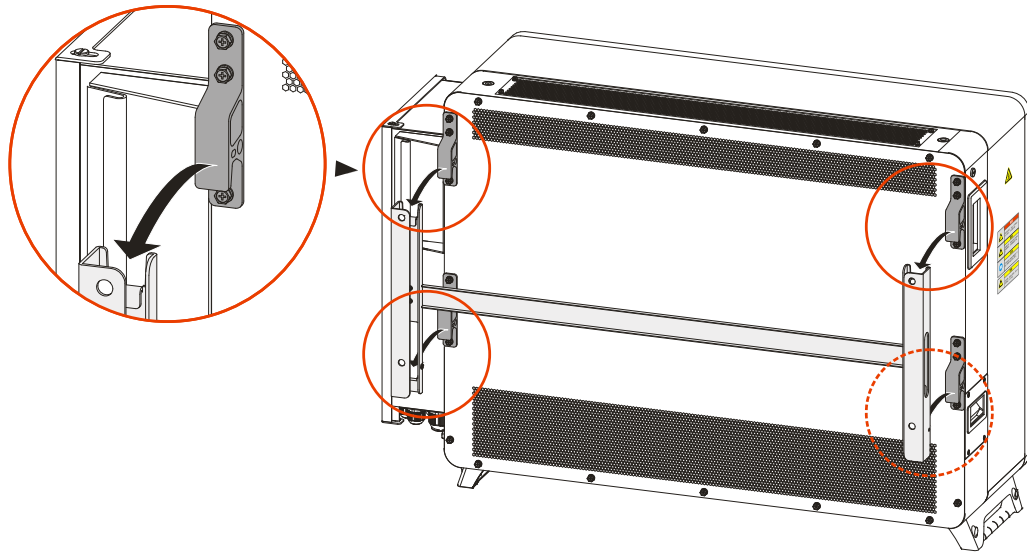

Figure3-24 Hang the inverter on the wall bracket
Step 6 Lift the inverter to the wall mount, make sure that the mounting ears and the groove of the wall mount fit well, and then slowly hang the inverter to the wall mount, as shown in Figure3-24.